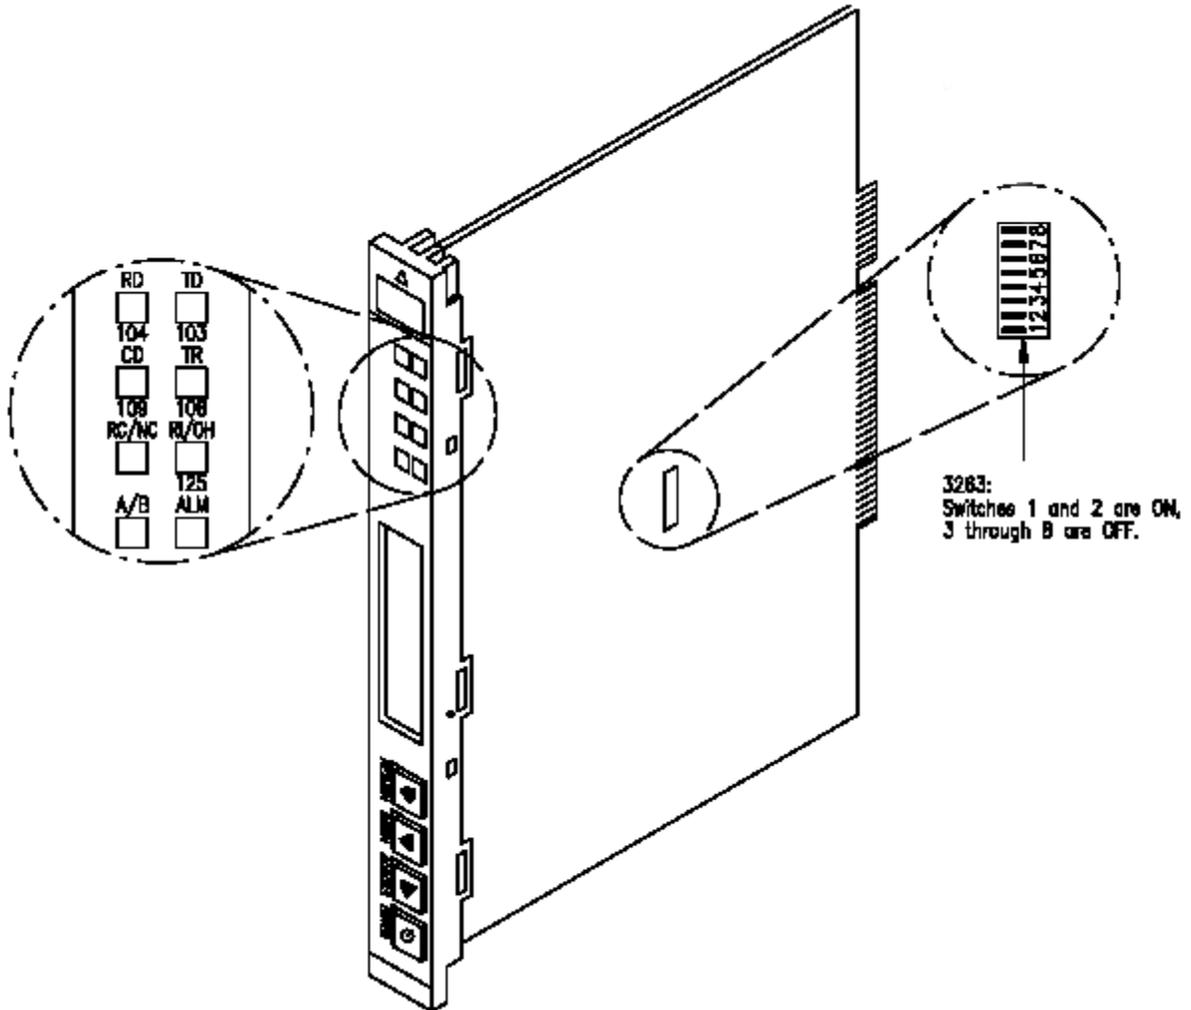

Figure 2. Modem Dip Switch Settings
- c. Check/set the DIP switches on the replacement modem as follows (see figure 2): 3263 Modem: 1 and 2 are On, all others are Off.